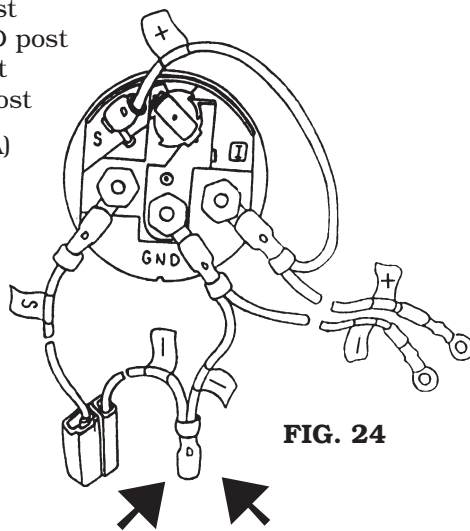

FIG. 24
(FIG. 24 & 24A)
**Note:** The clamp bracket should be attached to the gauge before the above wires are connected. (Fig. 24A). Figure 24 is shown without the clamp bracket to make it easier for you to see where the wires connect.